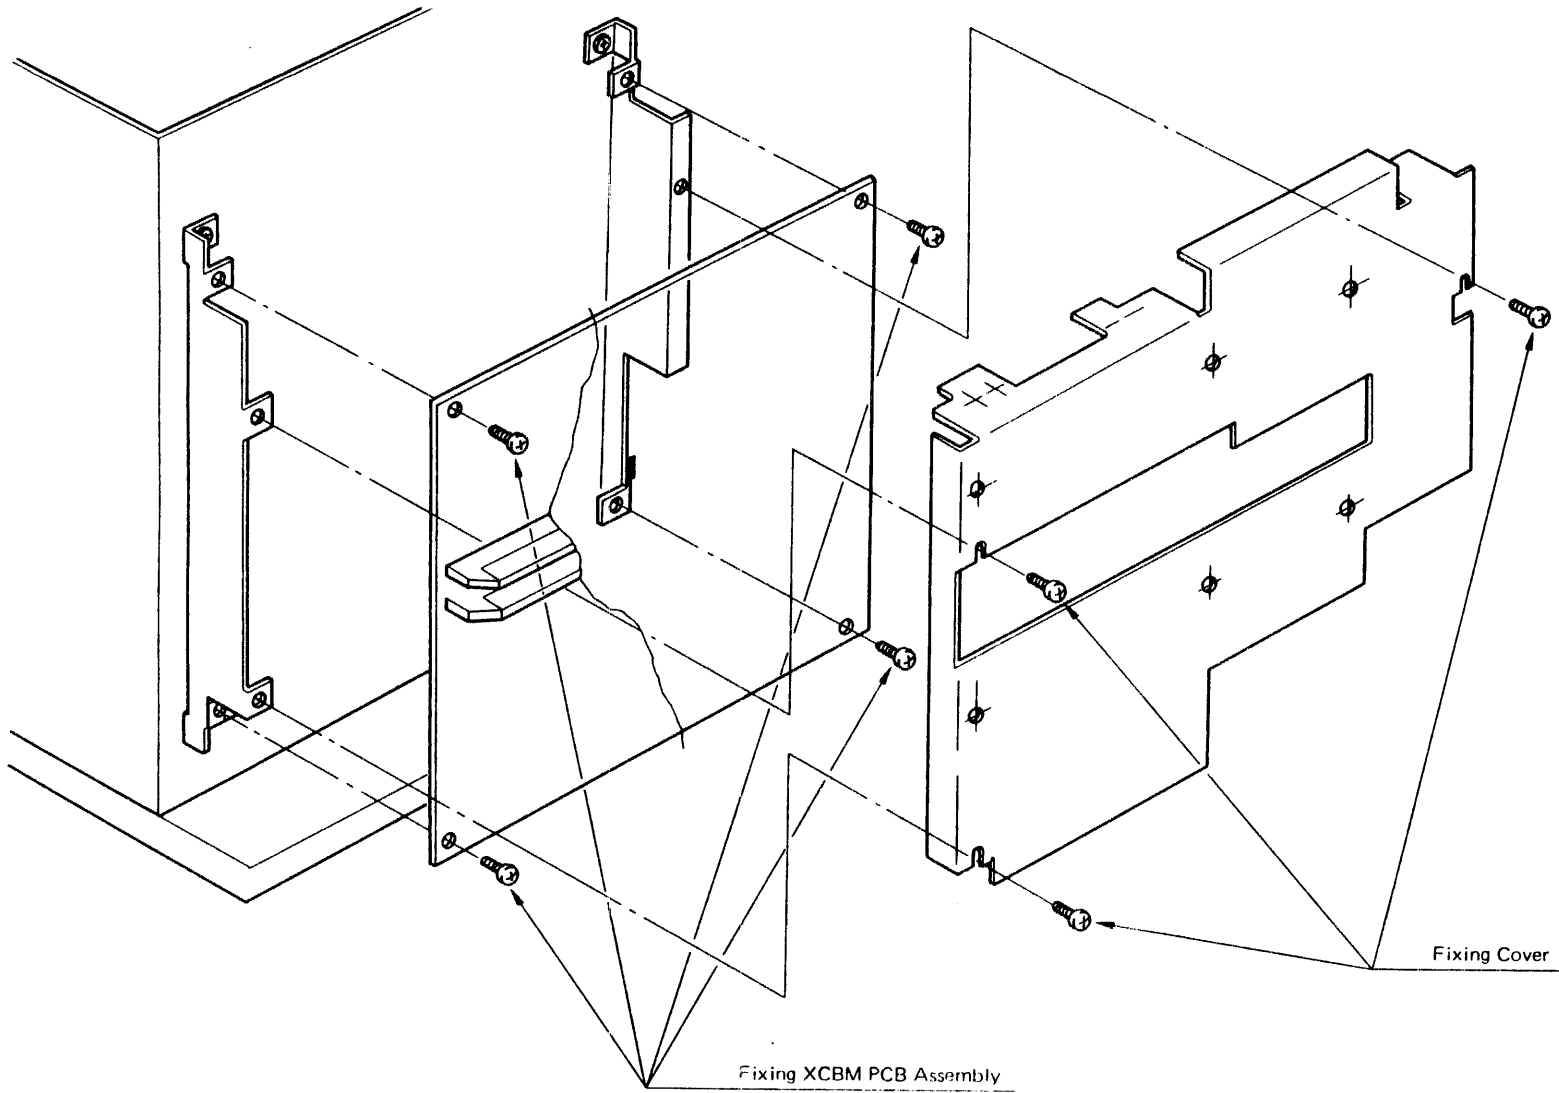

Figure 6-5-12 XCBM PCB Assembly Replacement
- (1) Loosen two screws securing the cable holder, and remove the cable holder.
- (2) Disconnect the interface cables (OM1B, OM2B and OM3B) connecting to channel B.
- (3) Disconnect cables on connectors CN32 and CN34 from XCBM PCB assembly.
- (4) Remove the cover by loosening the three screws.
- (5) Disconnect a cable on connector CN31 connecting CQFM PCB assembly.
- (6) Remove XCBM PCB assembly by removing the four screws.
- (7) Reposition the spare XCBM PCB assembly by reverse procedure items (1) to (6). Refer to Figure 6-5-12.